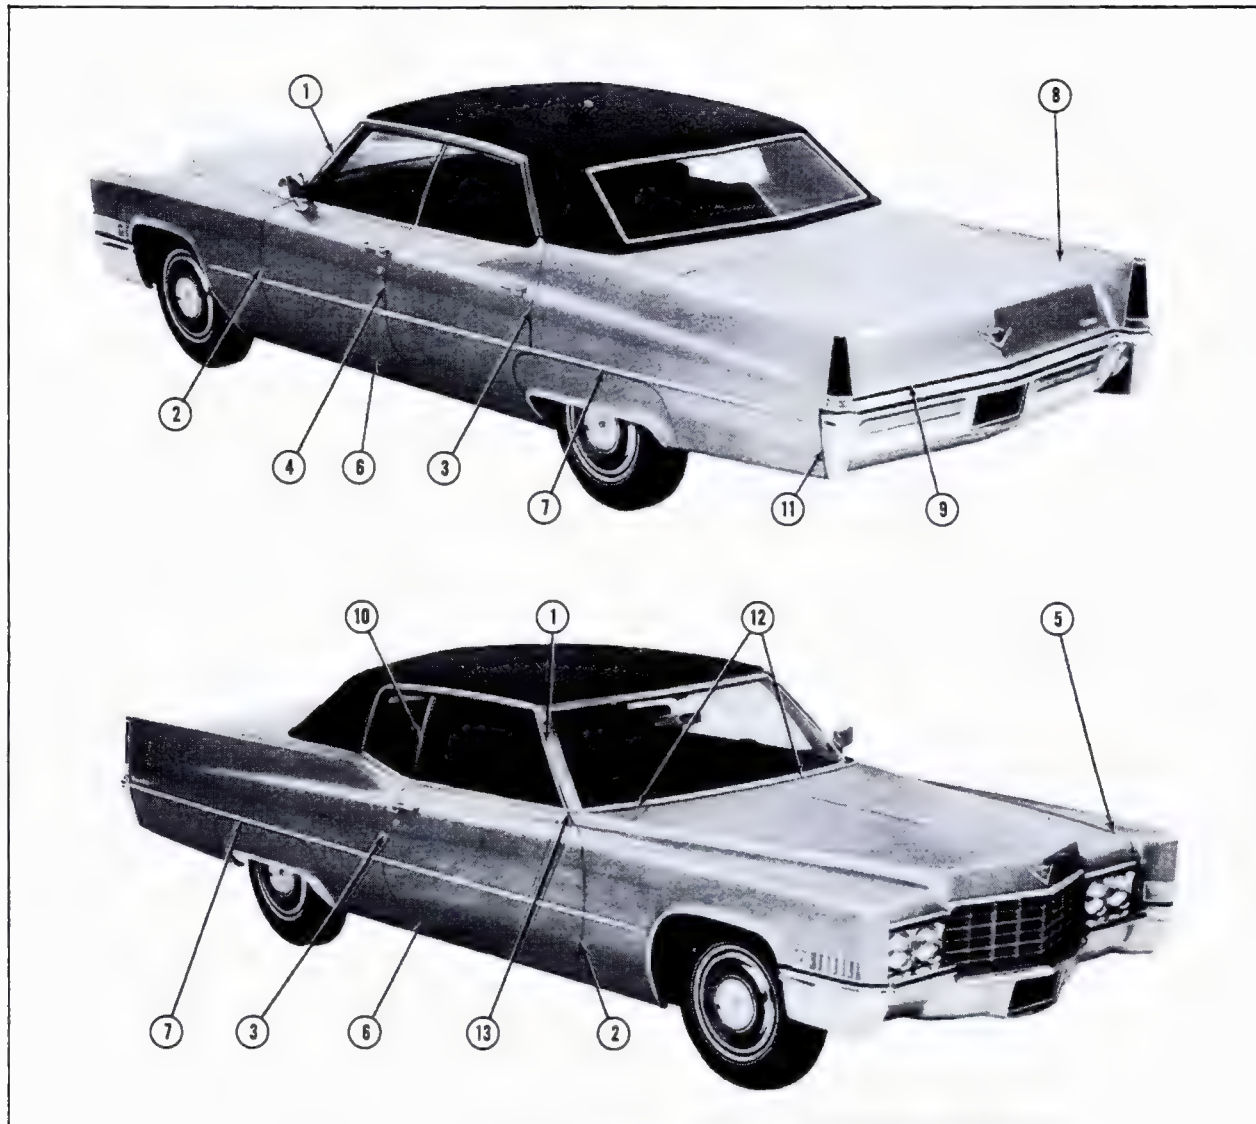

Fig. 11-5 Sheet Metal Tolerances
provide fore, aft, and side adjustment of hood. Position hood so that tolerances shown in Fig. 11-5 are provided.
15. Obtain proper alignment of fender as shown in Fig. 11-5, and tighten all screws installed in steps 2 through 9 to proper torque as shown in chart on page 11-6.
3. Adjust fender so that clearances are as shown at points #2, #5, #12 and #13, Fig. 11-5.
The adjustment procedures for clearances #1 thru #13 in Fig. 11-5 (except #2, #5, #12 and #13) are found in the 1969 Fisher Body Service Manual. These clearances should be adjusted to the specifications shown in Fig. 11-5.